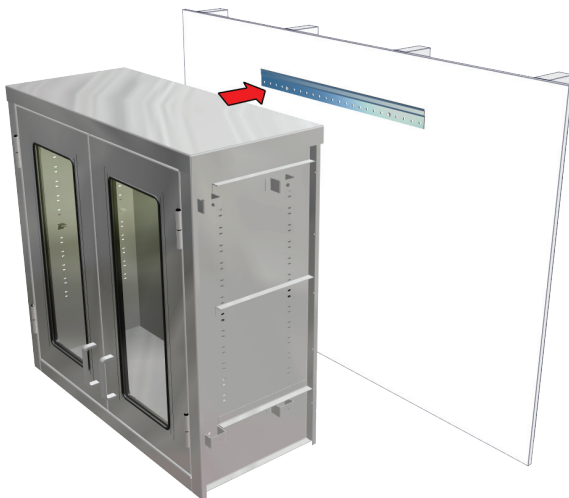
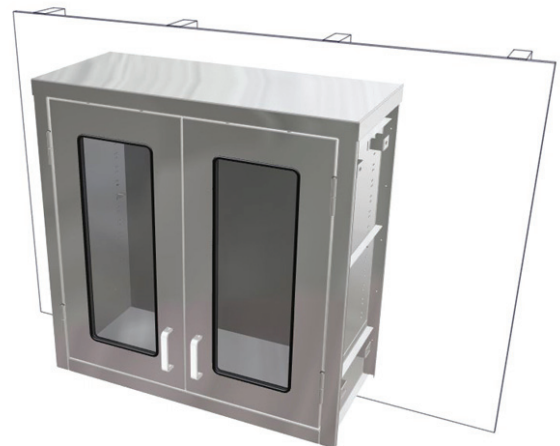

Fig. 10: Mount cabinet on wall
Fig. 11: Wall Cabinet installed
4. After the Mounting Bracket is secured onto the wall, lift the wall cabinet and fit the back onto the wall-secured Mounting Bracket (Fig. 10 and Fig. 11).